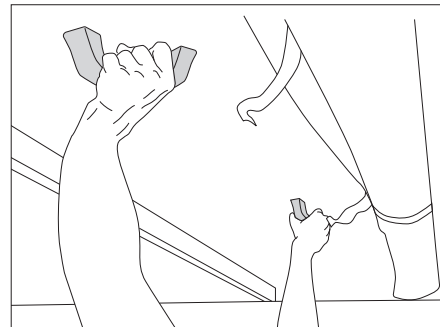

Fig. 12 Pushing up the pop-up roof
- Hold the grips with both hands and push the pop-up roof upwards (Fig. 12).